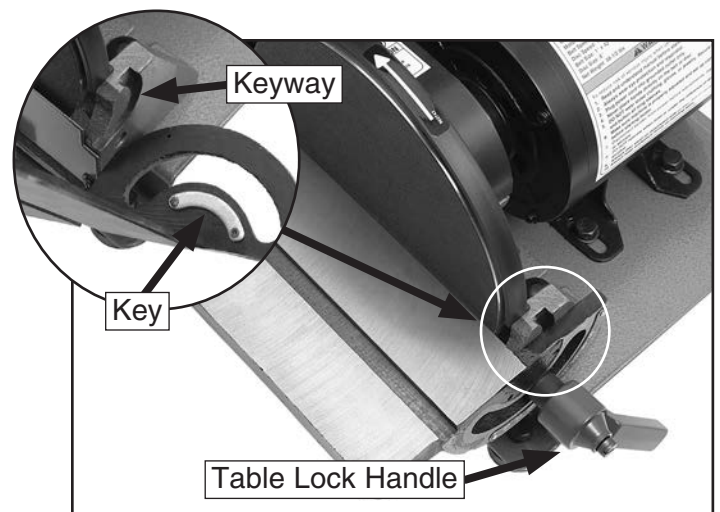

Figure 16. Sanding disc table installed.
15. Keeping the cardboard in place, align the half-arc key of the disc table with the indented keyway on the disc guard (see the inset of **Figure 16**). Then secure the table with a table lock handle, and remove the cardboard.